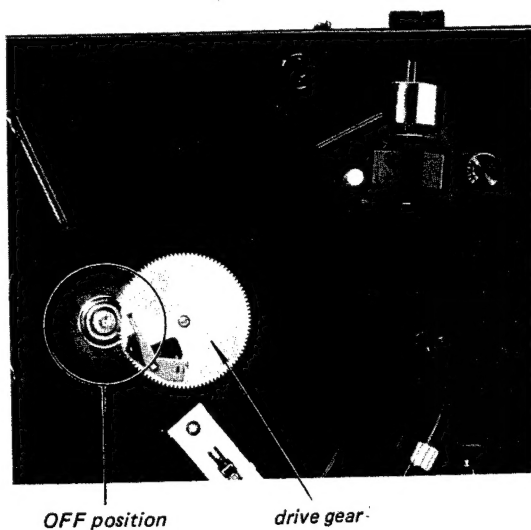

Fig. 3-7.
2. Set the drive gear to OFF position as shown in Fig. 3-7.